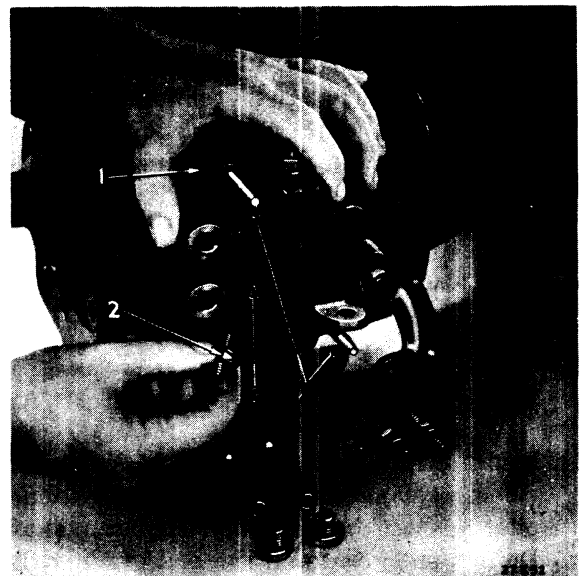

Fig. 10—Installing Gearshift Housing Assembly
- (16) Install new welch plug in front of case at lower shifter rail.
- (17) After placing shifter rails in neutral position and installing transmission cover locating pilots, Tool C-590 (Fig. 10), install cover and gear selector assembly, making sure that gearshift lever enters gear shifter fork slots. Install two cover cap screws. Remove pilots and install the other two cap screws. This will insure proper alignment and easier shifting.
- (18) Install detent balls, springs, and retainer cap screws. Fill case to correct level with proper grade of lubricant specified in Lubrication Section.